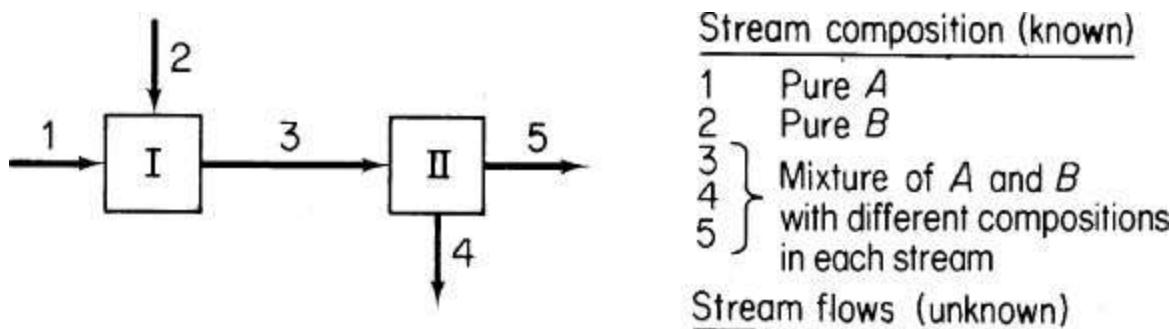

Figure P6.1.2
- **6.1.2.** What is the maximum number of independent material balances that can be written for the process in Figure P6.1.2?